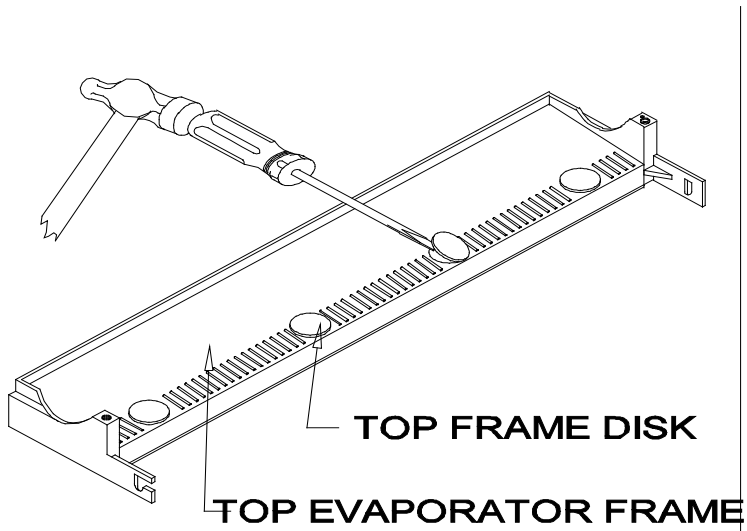

FIG. 1
3. Using a small flat screwdriver, chip out all four top frame disks (Fig. 1). **IMPORTANT:** Be careful not to damage nuts and evaporator studs beneath disks.